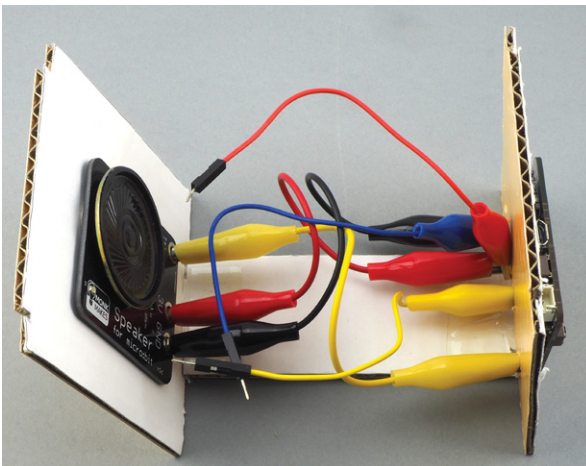

Figure 6-15: The back card and speaker
12. Now attach the speaker to the back card; use adhesive tape or putty to secure it. Clip the other end of the three alligator clips you've connected to the micro:bit (black, red, and yellow) to their corresponding ports on the speaker (GND, 3V, and 0, respectively). Affix the back card to the bottom card using adhesive tape. As you can see in Figure 6-15, your chassis should now be in a U shape. The red, blue, and yellow alligator clips here are waiting to be attached to the servomotor.